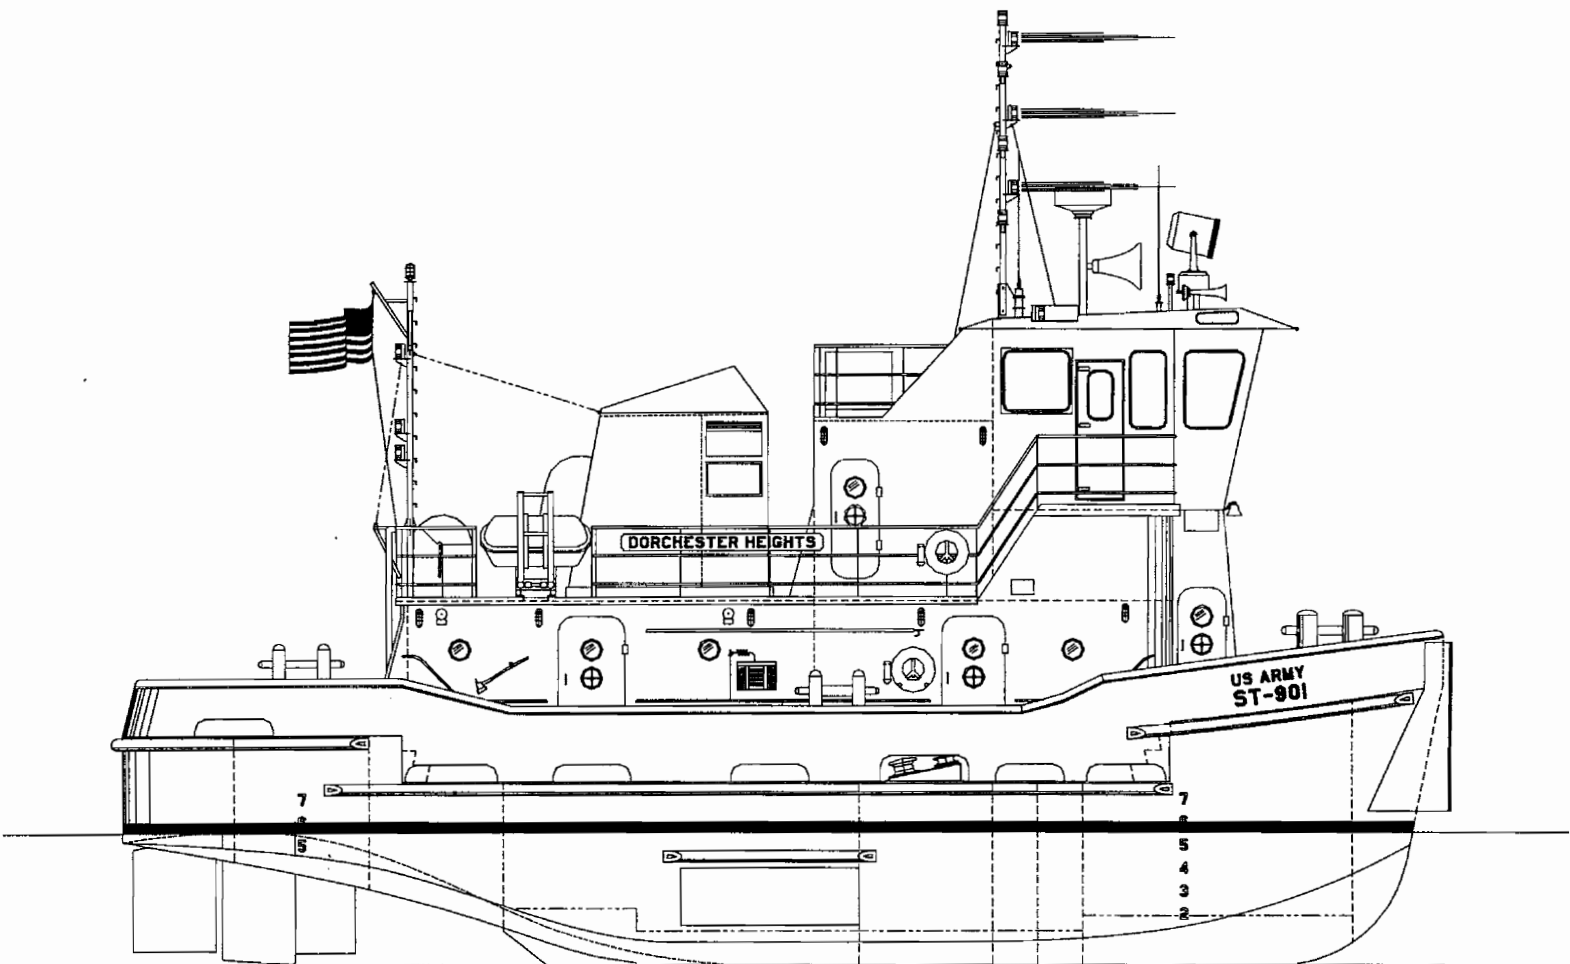

Figure 1-0. Small Tug.
1.1. Scope. This manual describes the Direct and General Support maintenance for the Class A1, Maltese Cross, Small Tug (ST) Towing Vessel (see Figure 1-0). The ST is designed to provide towing of barges and general cargo barges in harbors, inland waterways, and along coastlines. It is also capable of assisting larger tugs in all types of harbor utility work, such as in the docking and undocking of ships of all sizes, the movement of floating cranes, floating machine shops, and in line handling duties. The ST will support deployment of forces and sustainment of forces in an overseas theater, including port operations in either fixed port facilities or during logistics over the shore (LOTS) type operations. The ST will accommodate all types of barges and non-powered types of lighterage expected to be encountered in deployment and sustainment operations worldwide.